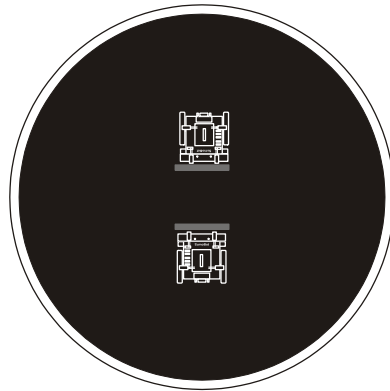

Figure 1-3
- √ Place both SumoBots facing each other as shown in Figure 1-3.